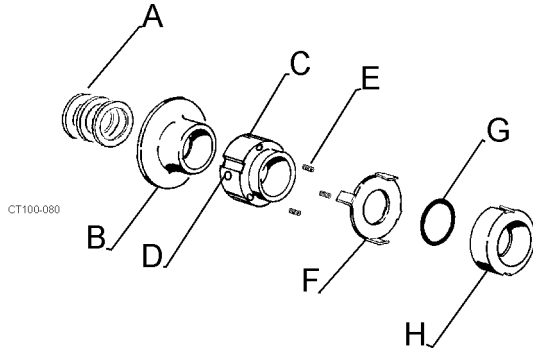

Figure 2 - Type 1 Seal Items
4. Remove deflector. (Figure 2, item B).
- Loosen set screws (2) (Figure 2, item D) in spring retainer (Figure 2, item C) and slide retainer and washer (Figure 2, item F) off shaft. Save springs (3) (Figure 2, item E).
- Remove O-ring, then lift rotary seal off shaft. (Figure 2, items G and H).